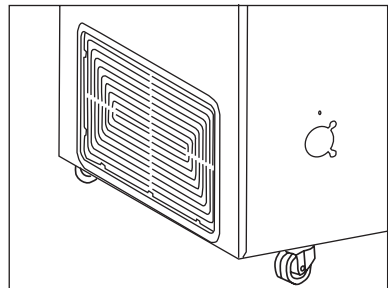

fig. 3
**IMPORTANT!** There must be free access to the ventilation grille (fig. 3).